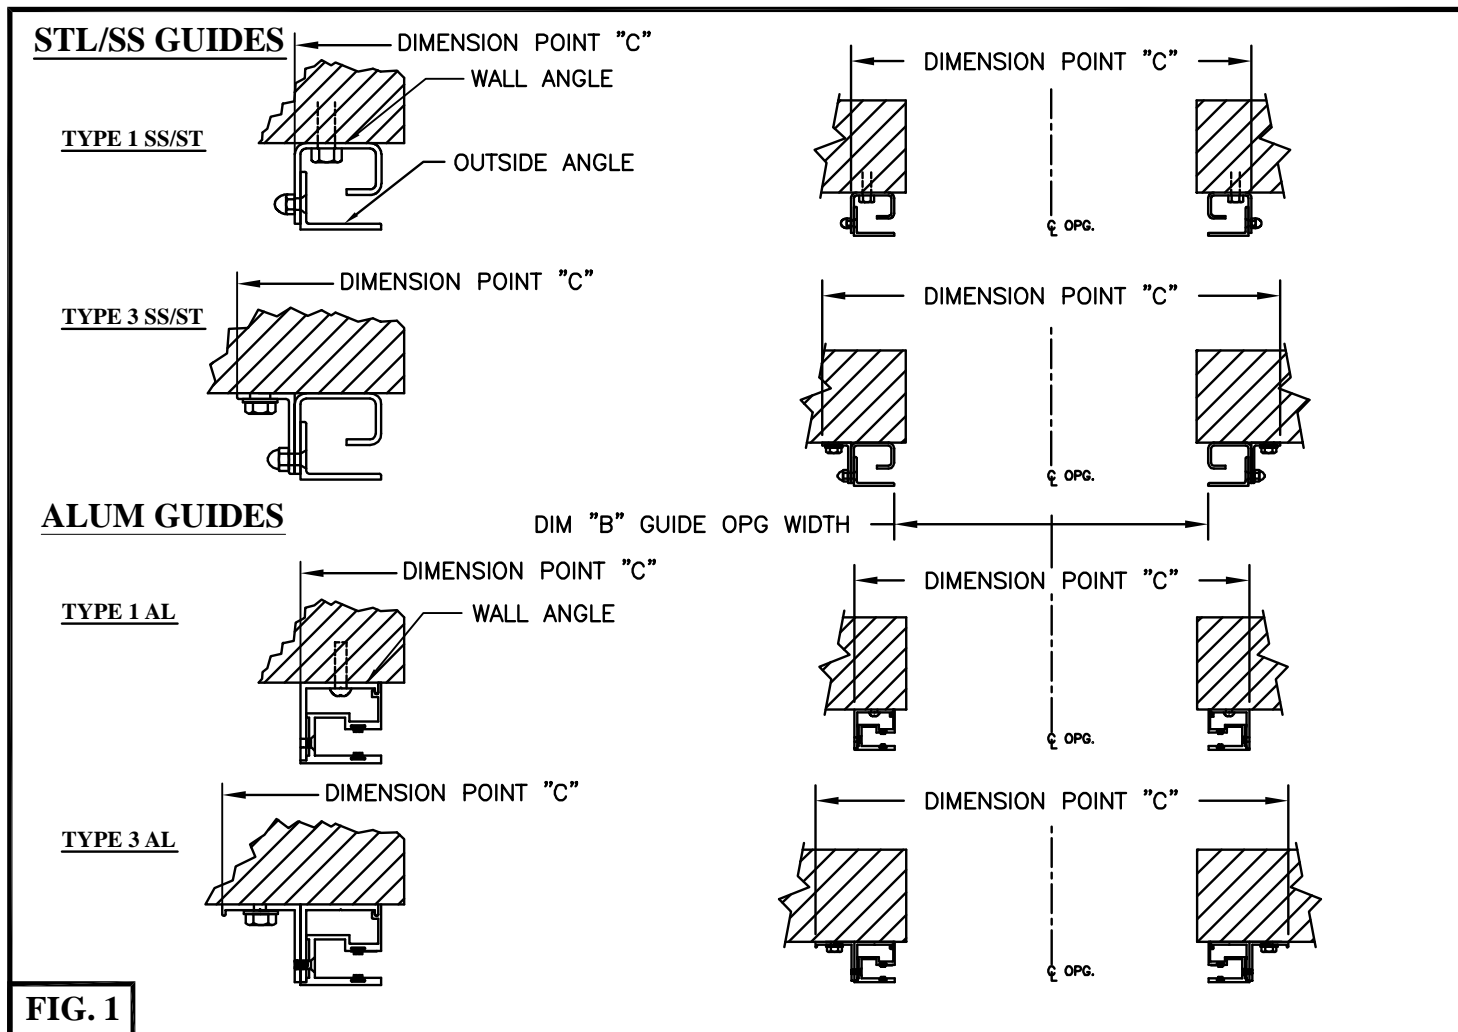

FIG. 1
- 2) For typical installation for Type 1 and 3 (See FIG. 1) guide assemblies, Dimension point "C" is centered around jamb opening - (if side room permits) - if there are questions check job construction drawings (if available).
- 3) Check the Guide opening measurement. Locate a mark on the floor at the tip of each guide and measure. Guide measurement must equal Dim "B". (See FIG 1 & 3) **THIS IS CRITICAL** If guide opening does not equal Dim "B", **STOP** and redo steps 1 and 2.